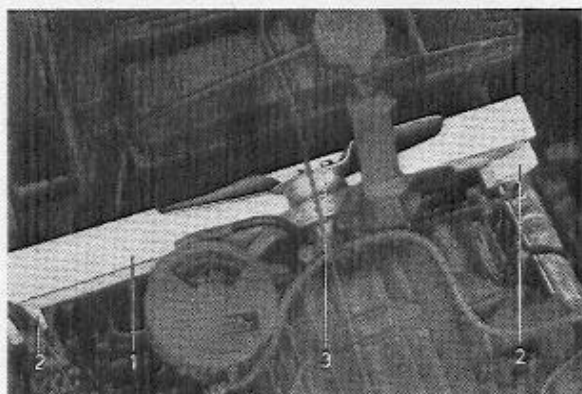

Fig. 5. Engine support.
7. Screw off nuts at the front engine suspension. Remove the front engine guard plate. Place a wooden block (1, fig. 5) ($62 \times 6 \times 6$ cm = $24.4 \times 2.4 \times 2.4$ ") above the sills but below the fan hub (3). Insert the wooden block from below. Two extra blocks (2) (size $4 \times 6 \times 6$ cm = $1.6 \times 2.4 \times 2.4$ ") should be placed between the wooden block mentioned above and the side members on the PV 445. A small overhead hoist can of course also be used to support the engine.